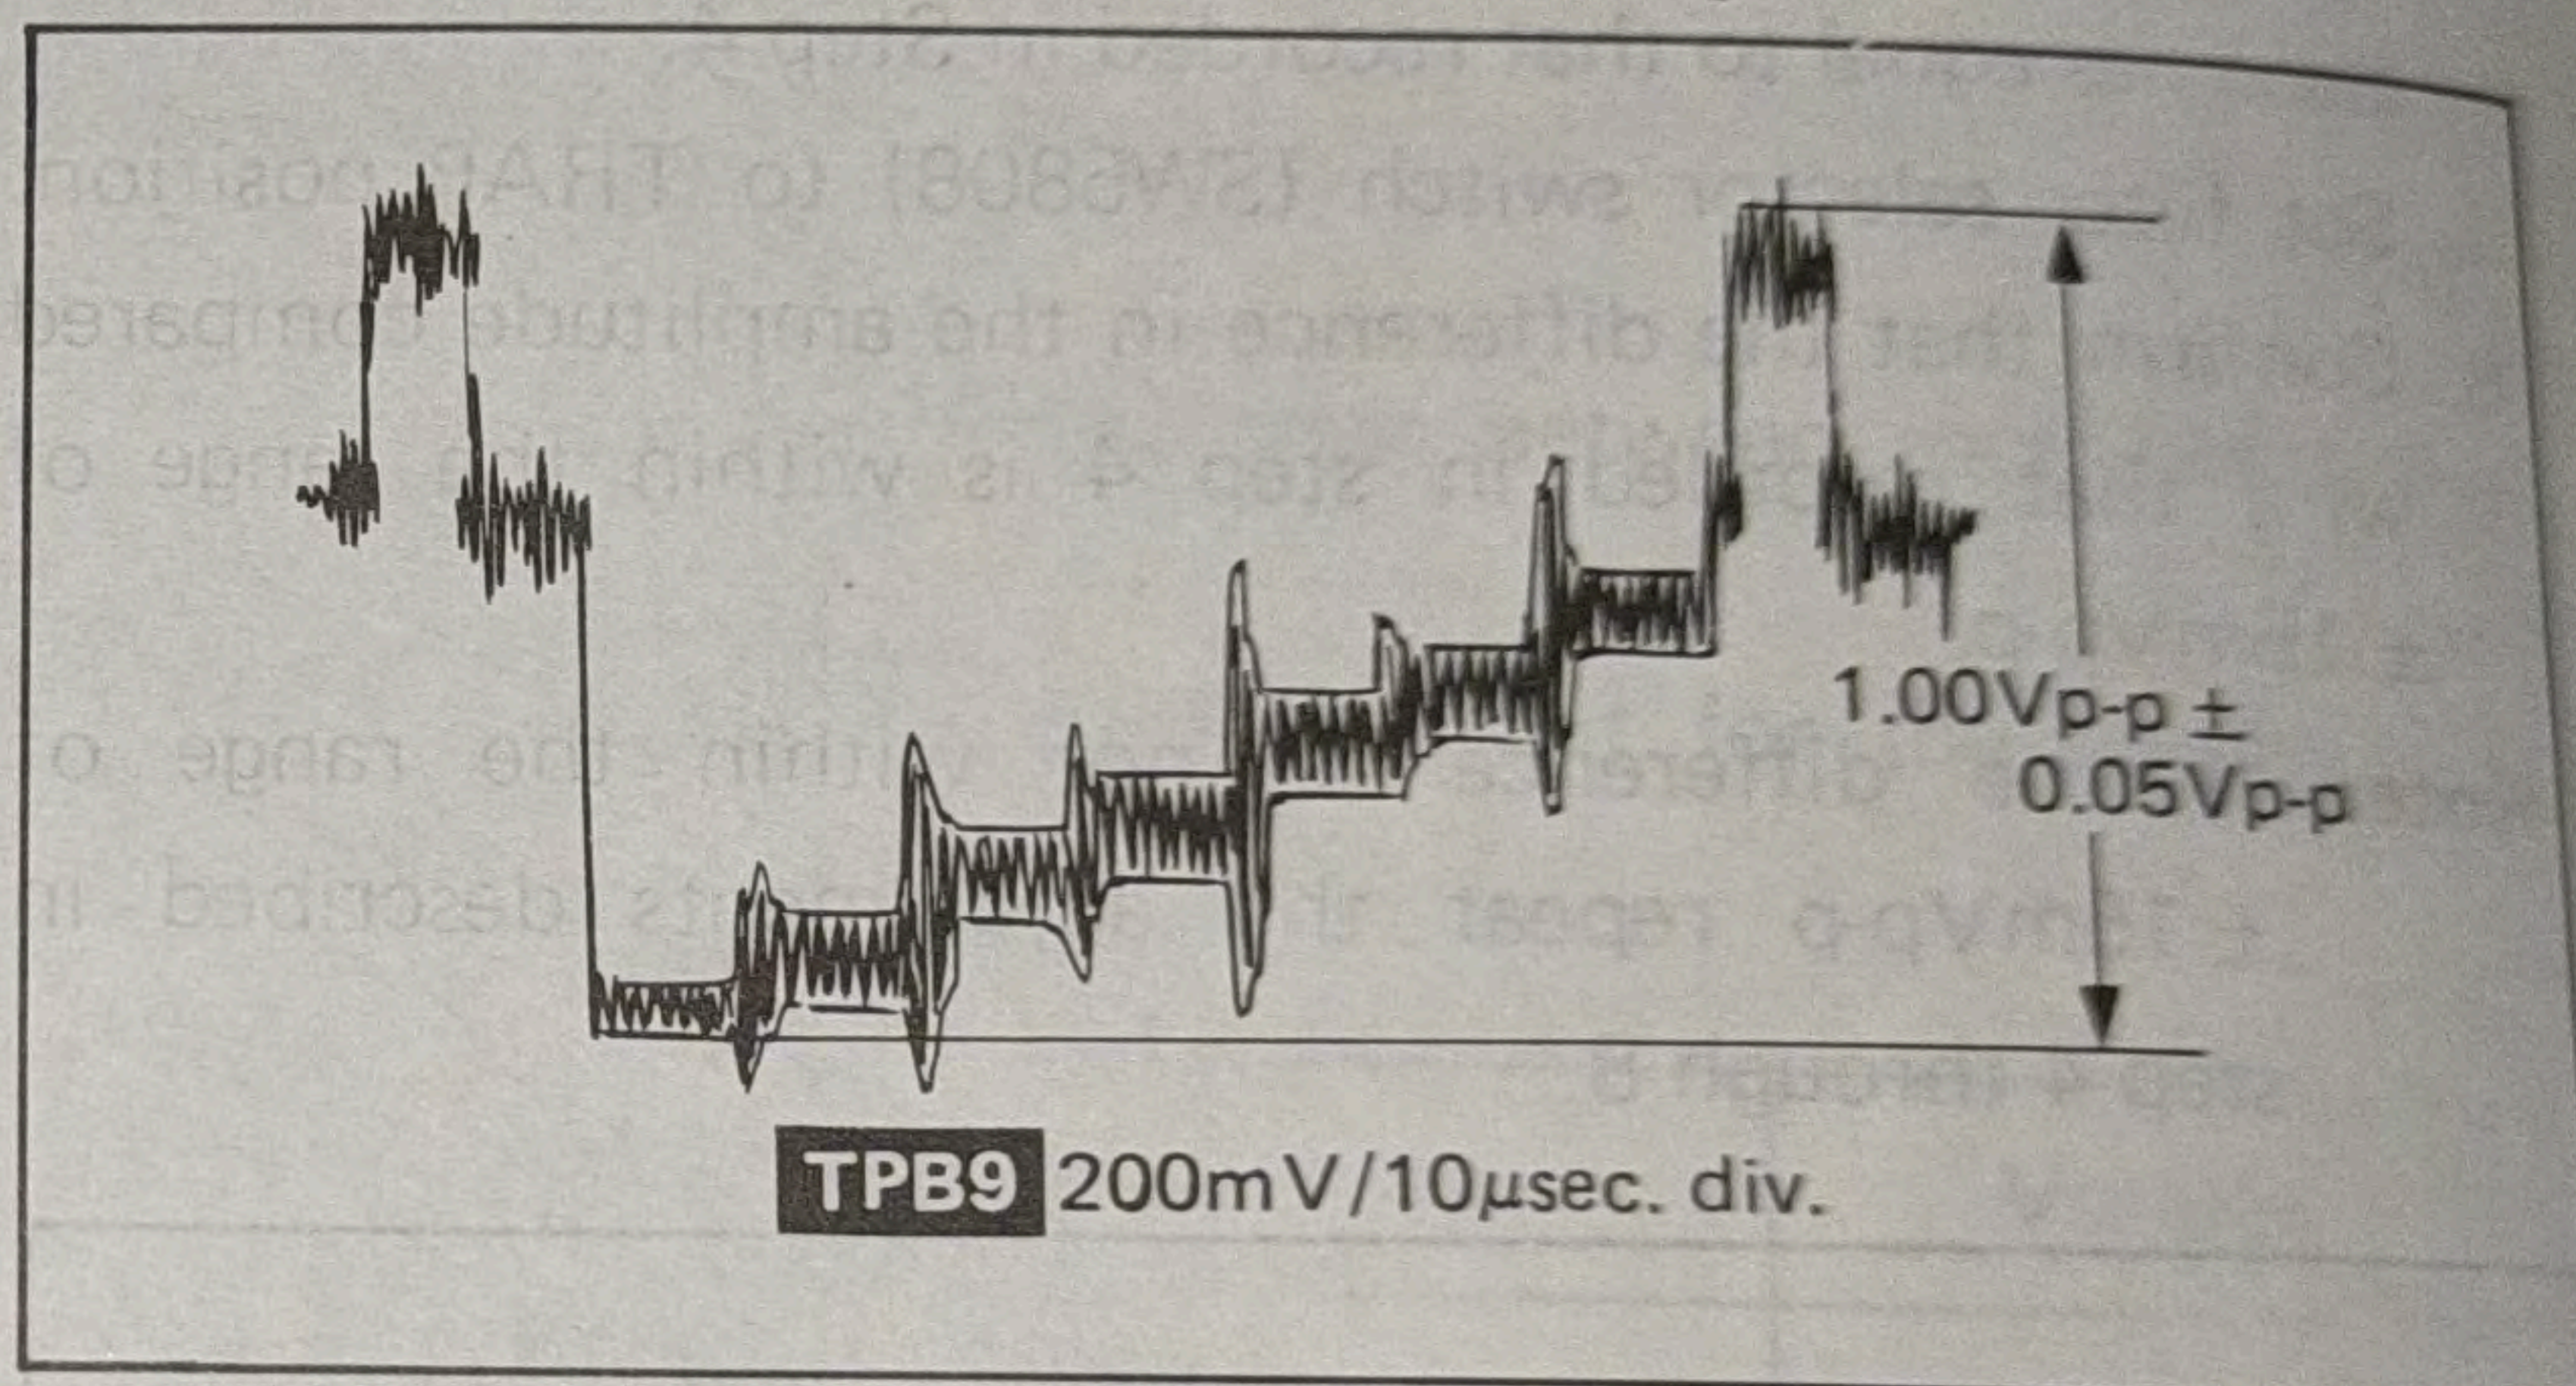

Fig. 35
4. Adjust R324 (Y-Level) so that the **TPB9** becomes 1.00Vp-p \pm 0.05Vp-p as shown in Fig. 35.